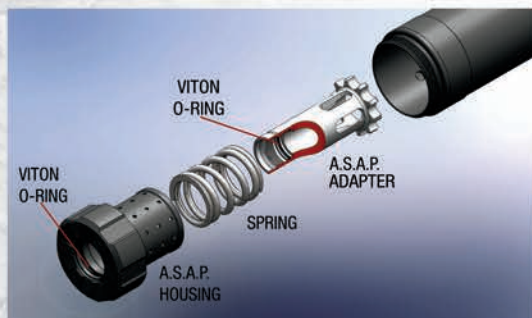

Figure 1
- Check and if necessary replace the high temperature Viton® o-rings situated in the rear of the A.S.A.P. adapter housing assembly and in the rear of the A.S.A.P. adapter. See Figure 1.